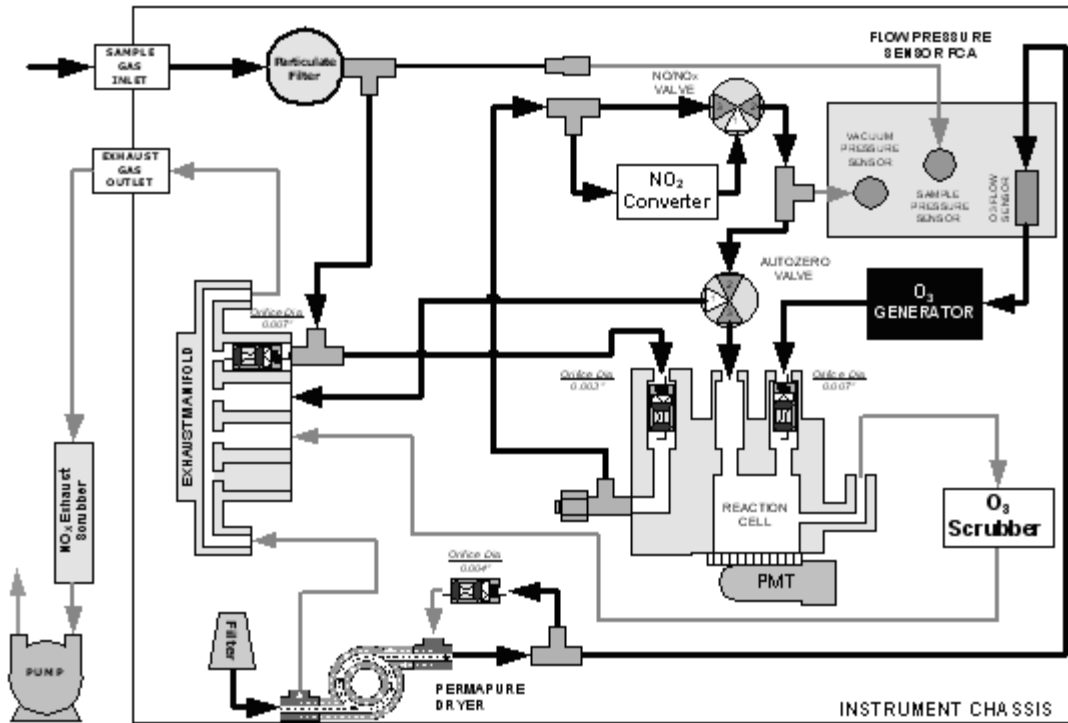

FIGURE 2 – M200EH new pneumatic layout
11. Connect the black pneumatic line to the newly installed T fittings horizontal port (see figure 2).
15. Install the 12 inch black Teflon tube onto the 1/8 inch end of the union reducer fitting from step 14 and connect the free end to the straight through port of the T fitting on the sample filter assembly (see figure 2).